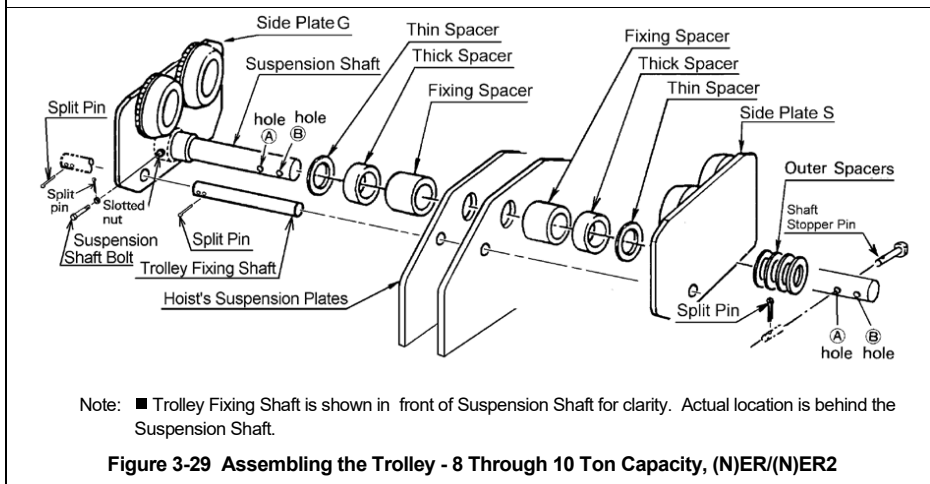

Figure 3-29 Assembling the Trolley - 8 Through 10 Ton Capacity, (N)ER/(N)ER2
Refer to **Figure 3-29** for 8 to 10 Ton coupled with (N)ER/(N)ER2 hoist
- 6) For the (N)ER/(N)ER2 hoists – Insert the Trolley Fixing Shaft through Side Plate G, Suspension plates and Side Plate S. Refer to **Figure 3-29**. Secure it to side Plate G with two split pins. Securely bend both branches of the Split Pin after insertion.